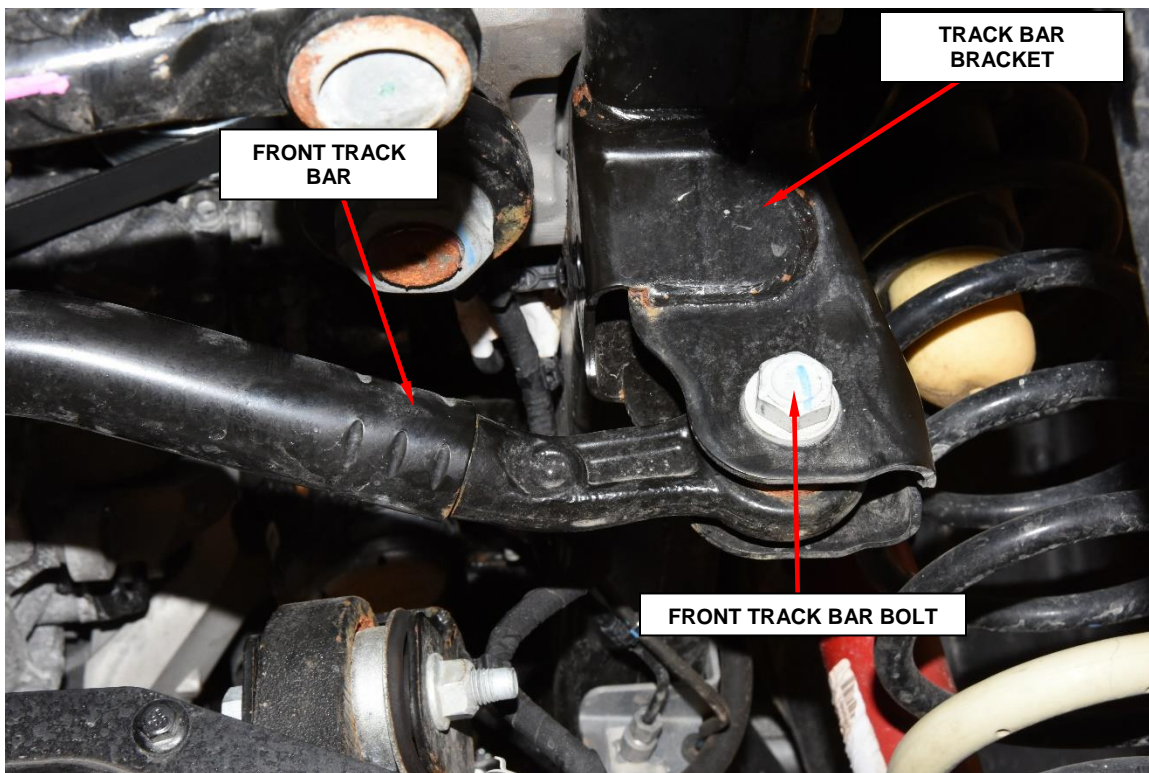

Figure 4 – Track Bar
4. Remove the track bar nut and bolt and **DISCARD**, disconnect the track bar from the frame bracket (Figure 4).
7. Position the track bar to the frame bracket then loosely install the **NEW** track bar bracket nut and bolt (Figure 4).
5. Remove the track bar nut and bolt and **DISCARD**, disconnect the track bar from the frame bracket (Figure 4).
13. Position the track bar to the frame bracket then loosely install the **NEW** track bar bracket nut and bolt (Figure 4).